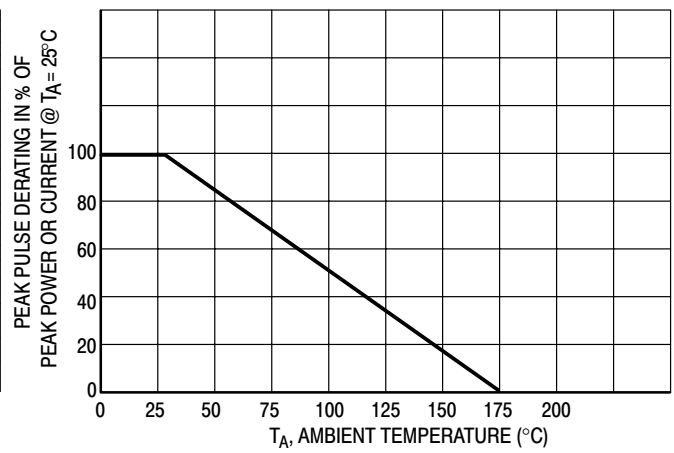
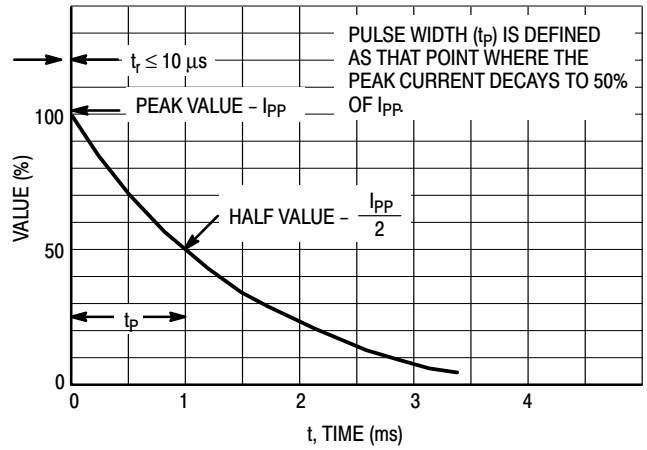

Figure 2. Pulse Derating Curve
Figure 4. Pulse Waveform
- Surge current waveform per Figure 4 and derate per Figure 2 of the General Data – 1500 W at the beginning of this group